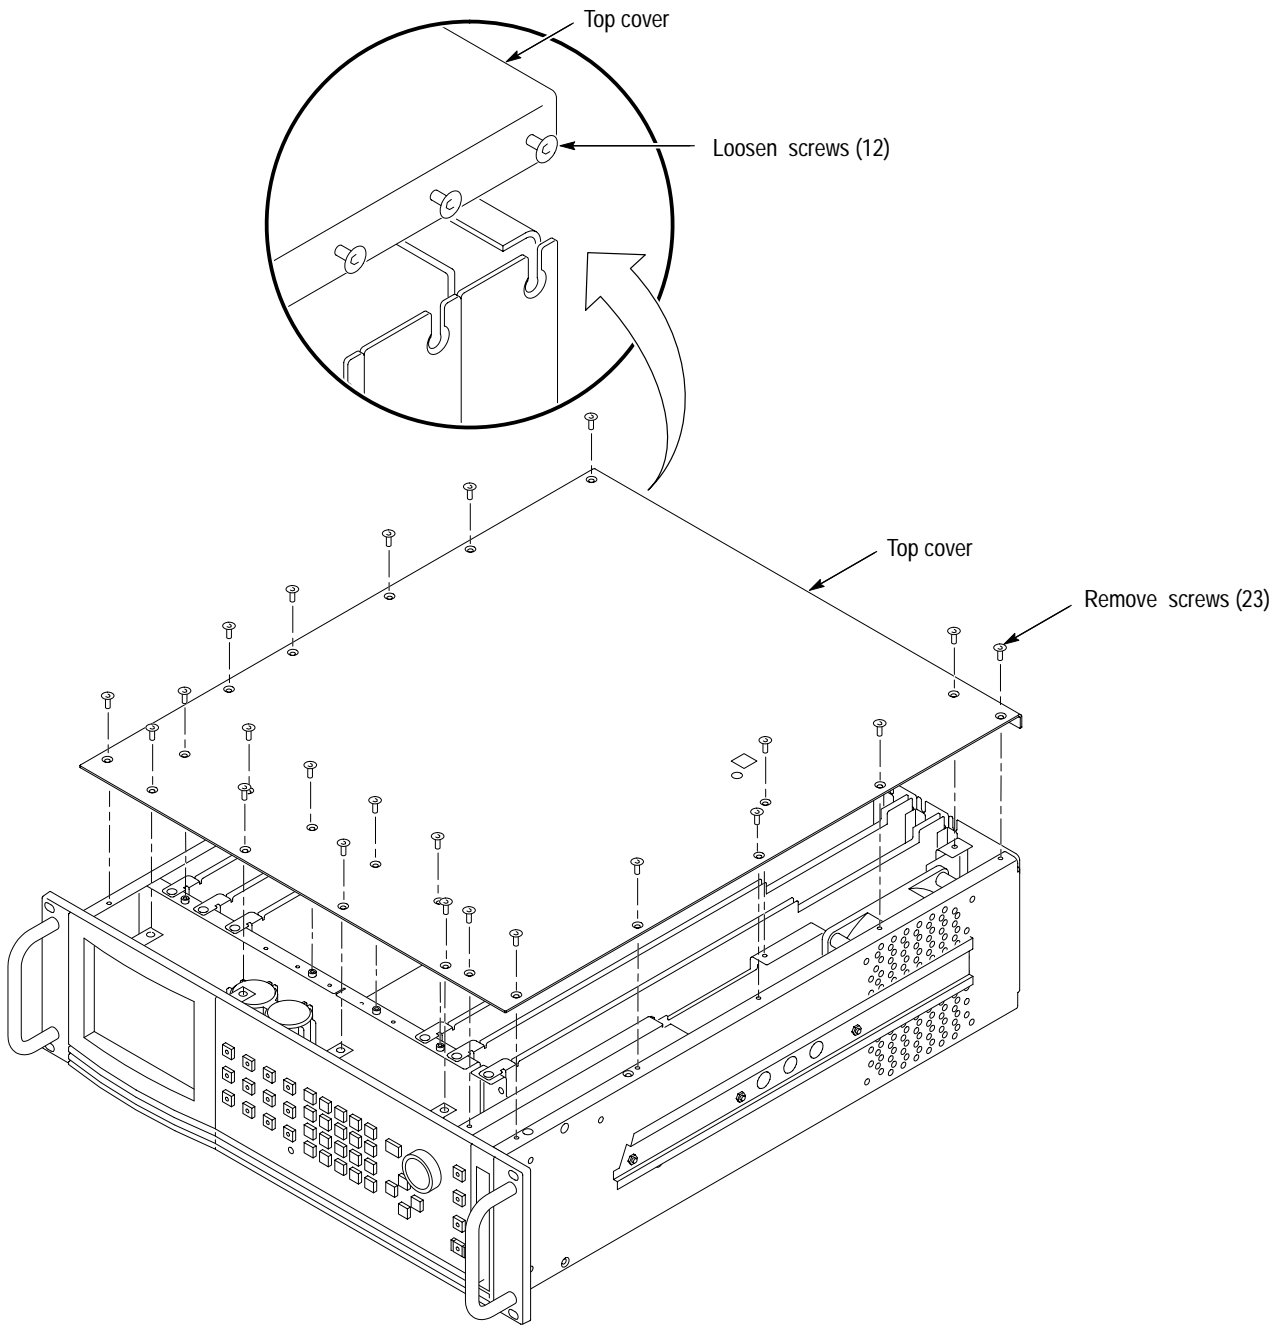

Figure C-1: Top cover removal
3. Remove all top-cover screws and remove the top cover. See Figure C-1.